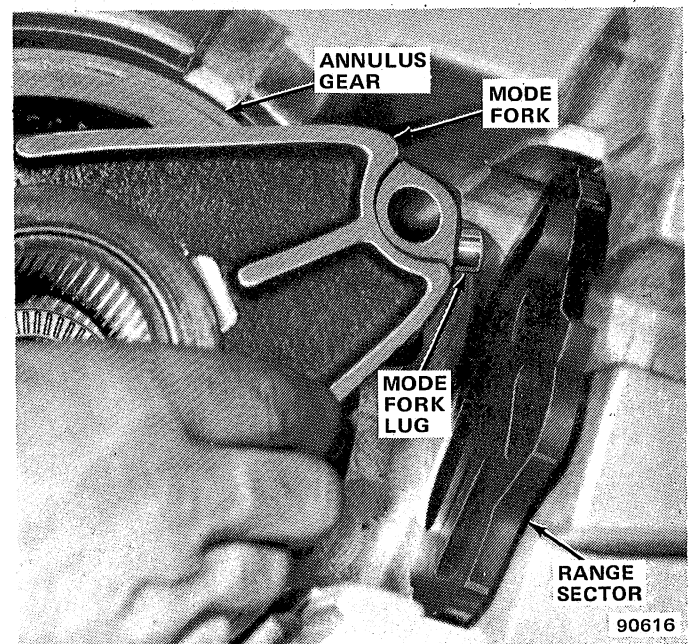

Fig. 2D-21 Annulus Gear and Mode Fork Removal/Installation
(1) Remove bearing using Tools J-8092 and J-29168 (fig. 2D-27).
(2) Install new bearing using Tools J-8092 and J-29167 (fig. 2D-28).
(3) Remove installer tools and check bearing position to be sure oil feed hole is not covered.